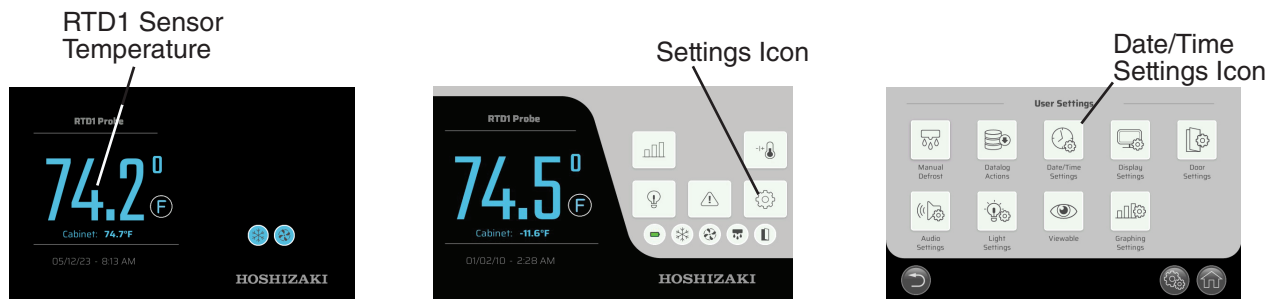

Fig. 9
- 3) If the settings icon is not visible, press and release the center of the RTD1 sensor temperature display. See Fig. 9.